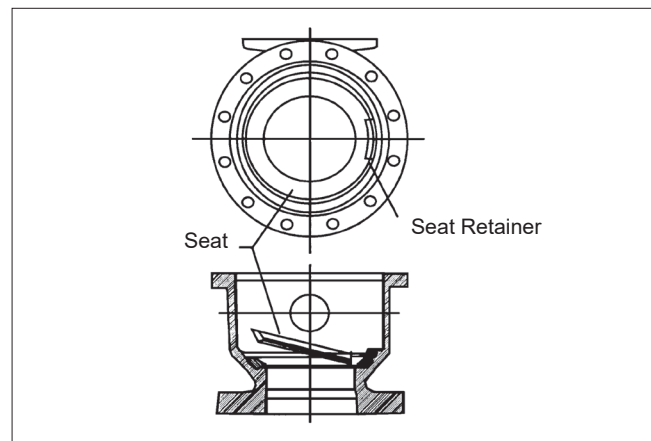

Figure 5. Proper Seat Orientation
3. Carefully clean and polish the ball (3) sealing surface: It should be free of all scratches and grooves.
6. Insert one valve seat (7) by sliding one side under the seat retainer in the body (1), and placing the seat into the cavity (see **Figure 5**). Repeat the procedure for the second seat in the body cap (2).